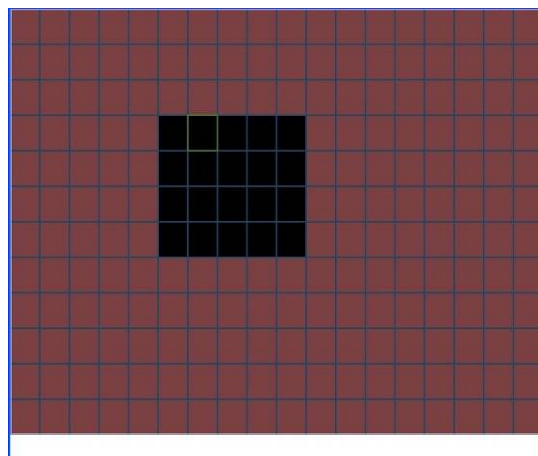

Figure 4-14
- Region: Click select button, the interface is shown as in Figure 4-14. Here you can set motion detection zone. There are 396(PAL)/330(NTSC) small zones.
In Figure 4-14, you can left click mouse and then drag it to set a region for motion detection. Click Fn to switch between deployment and withdraw motion detection. After setting, click enter button to exit.